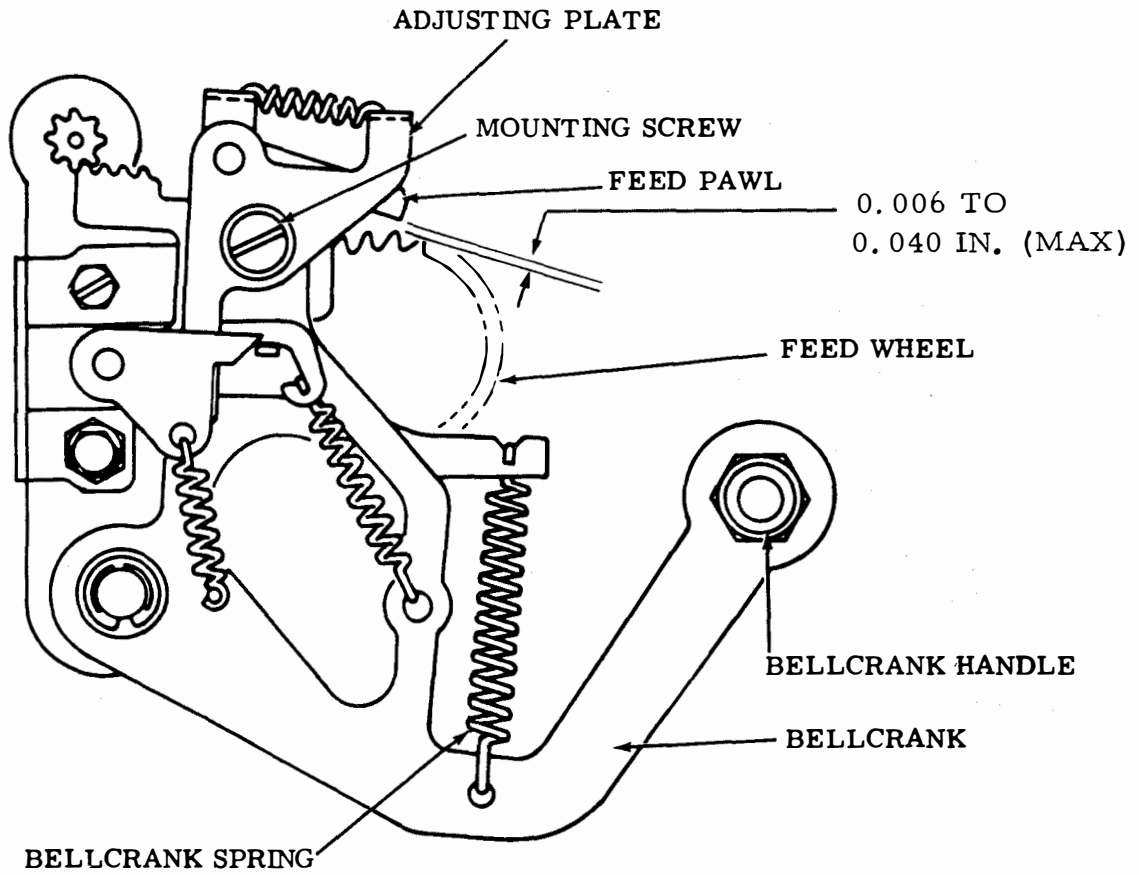

Figure 6-478. Feed Pawl Adjusting Plate, Reperforator
(2) Feed Pawl Adjusting Plate. Adjust as follows:
- (a) Refer to Figure 6-478.